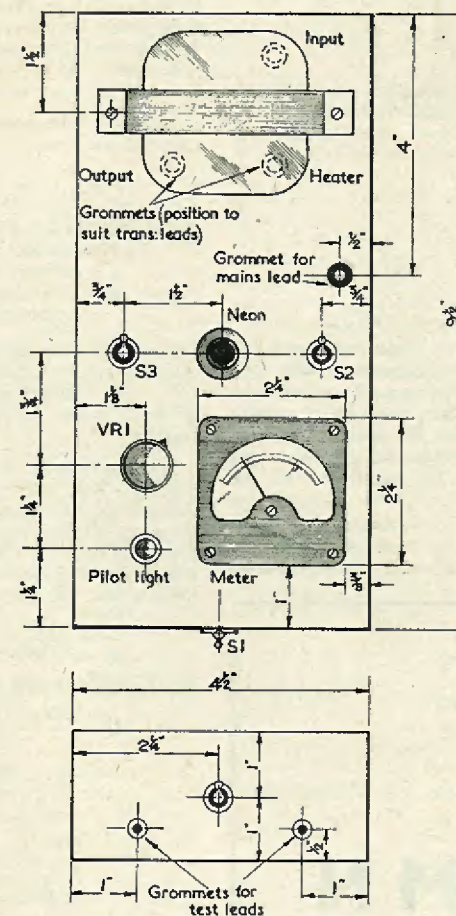

FIG 4
All the components are mounted on a chassis measuring  $9\frac{1}{2}'' \times 4\frac{1}{2}'' \times 2''$ . The two photographs (see cover) together with the plans in Fig. 4 should make all the details clear. The valve holder is mounted on the end plate of the chassis by two 1" screwed rods, while the capacitor C2 is fixed by a suitable bracket to the side plate. Between the valve and C2 is a tag board which has one earthed and four insulated tags. The latter are convenient points to attach the HT input and output leads of the transformer. The LT leads are taken direct to their respective points, viz:— (1) to the chassis by the earthed tag on the tag board, (2) to pin 8 on the valve holder and (3) to the pilot lamp. The last lead should be left long enough when the LT windings are added to the transformer. All leads pass through rubber grommets mounted on the chassis. Two earthing tags are bolted to the chassis by the nuts and bolts holding the meter in place. These facilitate the earth connections of R1 and the positive test lead and the earth connections of S1, S2, VR1 and C2 respectively. R2, R3 and C1 are supported by the components to which they are connected.